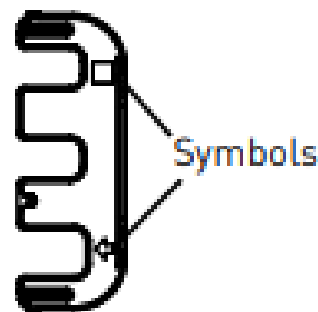

Figure 4
9. Figure 3 details the coding system for the fitting connections. Each fitting has a unique “keyed” socket on the manifold. Each fitting also has a graphic symbol molded into the elbow with a corresponding symbol on the manifold. The locking clip also has the same markings (Figure 4).